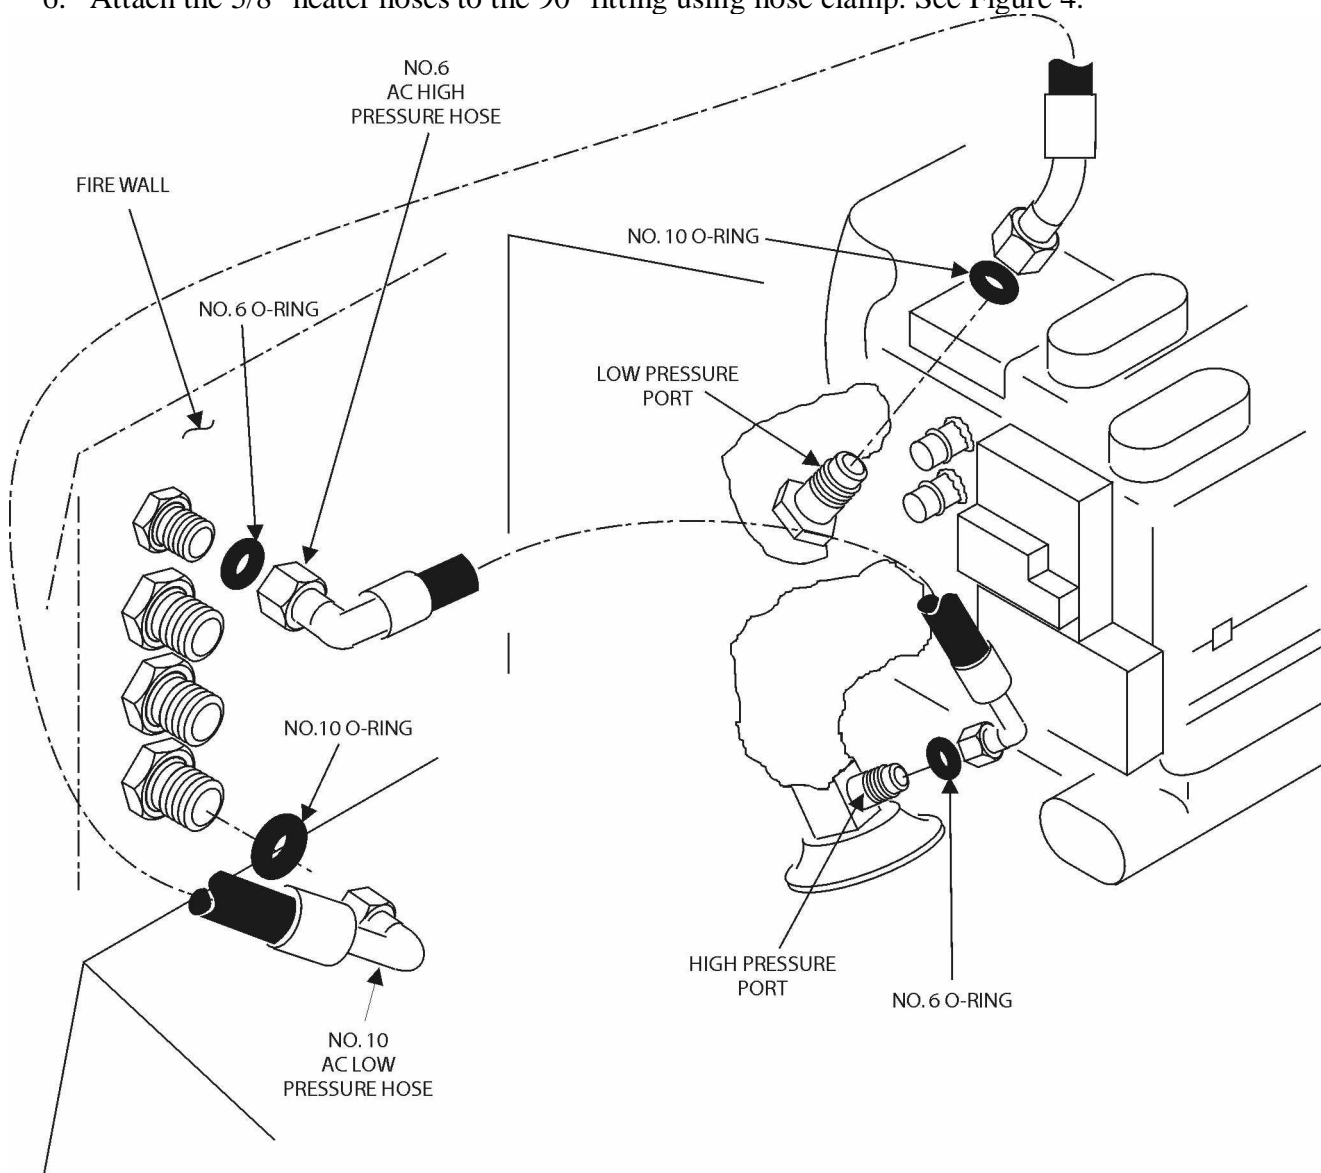

Figure 3. AC High and Low pressure to bulkhead fitting connections.
5. Route and attach the #10 ac high pressure hose to the lower port on the ac bulkhead fitting and the ac unit using a #10 O-ring with O-ring lube as shown in Figure 3.